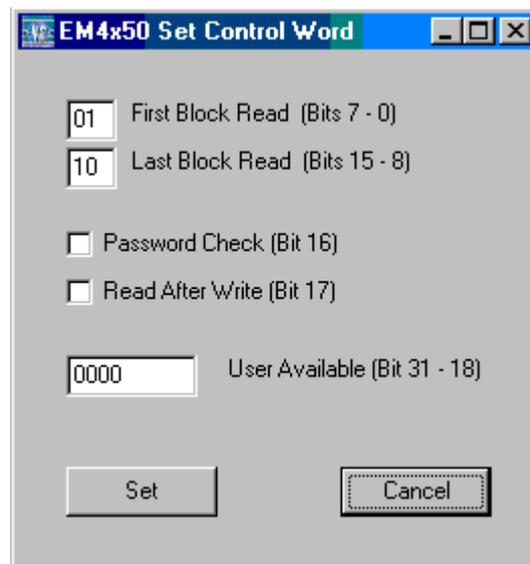

Figure 7 Set control word
2. Enter the First and Last Block values (see Figure 7 Enter Blocks values)